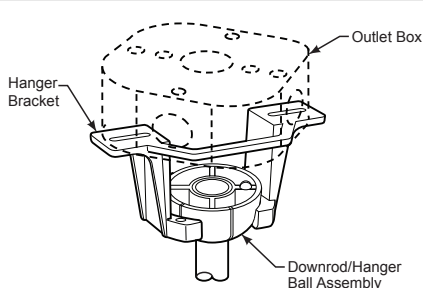

Figure 4
- ☐ 2. Carefully lift the fan and seat the downrod/hanger ball assembly on the hanger bracket that was just attached to the outlet box. Be sure the groove in the ball is lined up with tab on the hanger bracket. (Figure 4) This fan is intended for standard and angled mounting options only. Closemount and flushmount options are not available. For angled ceilings, note the angle can be no more than 19°.